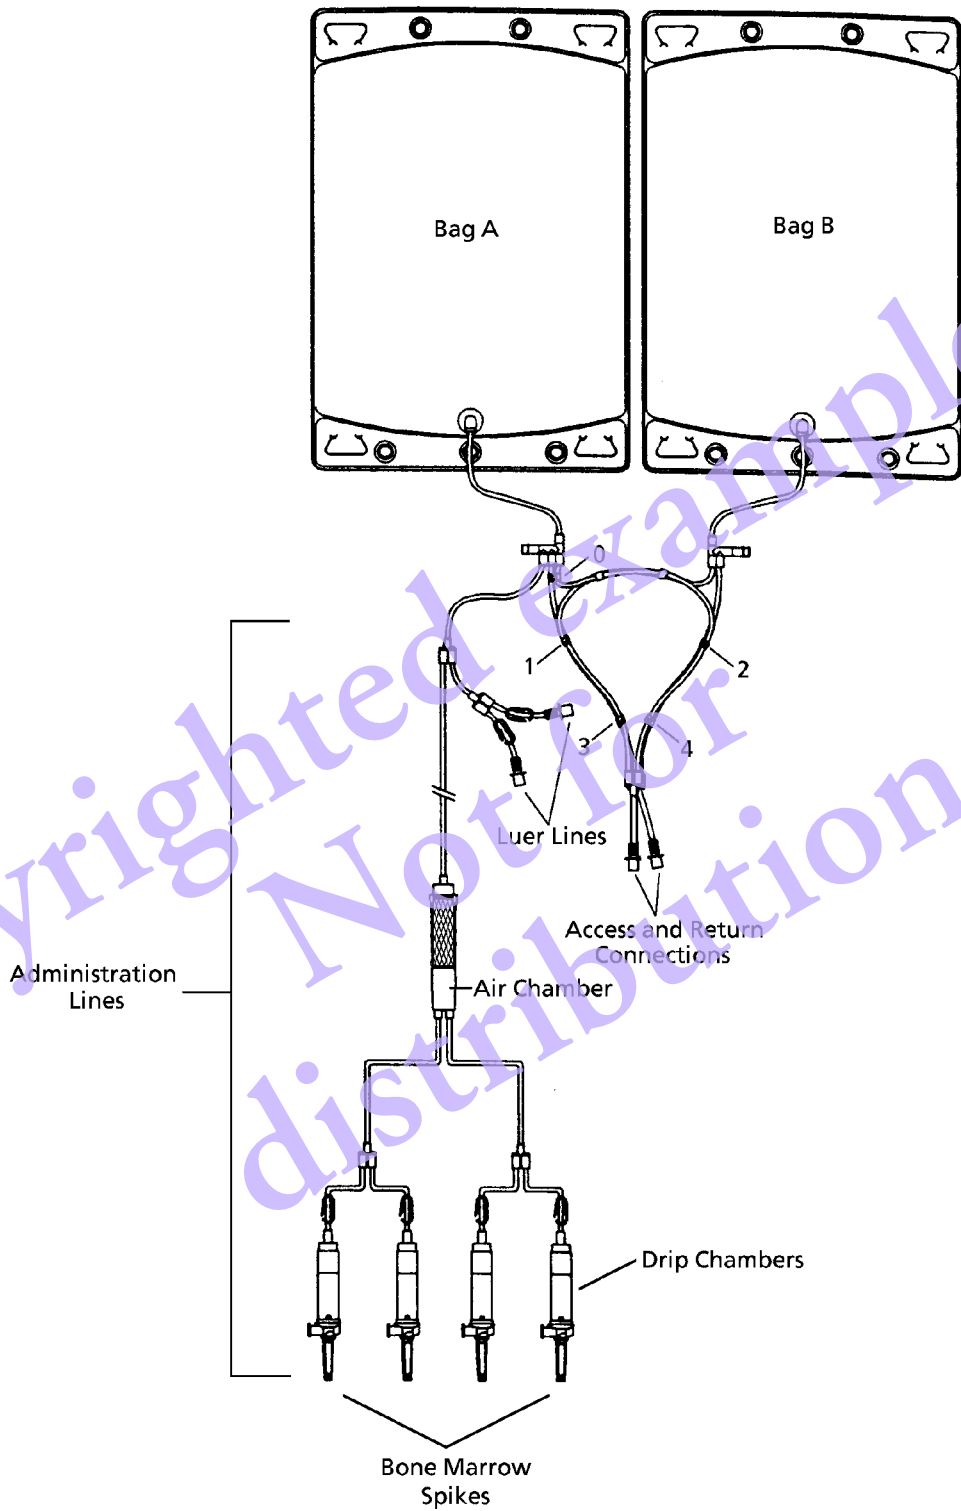

Figure 8B-1. BMP Set
4. Hang the bags and remove the hemostat from clamp point 0. Allow the bone marrow bag access and return lines to prime. Then clamp at point 1. (See Figure 8B-1.)